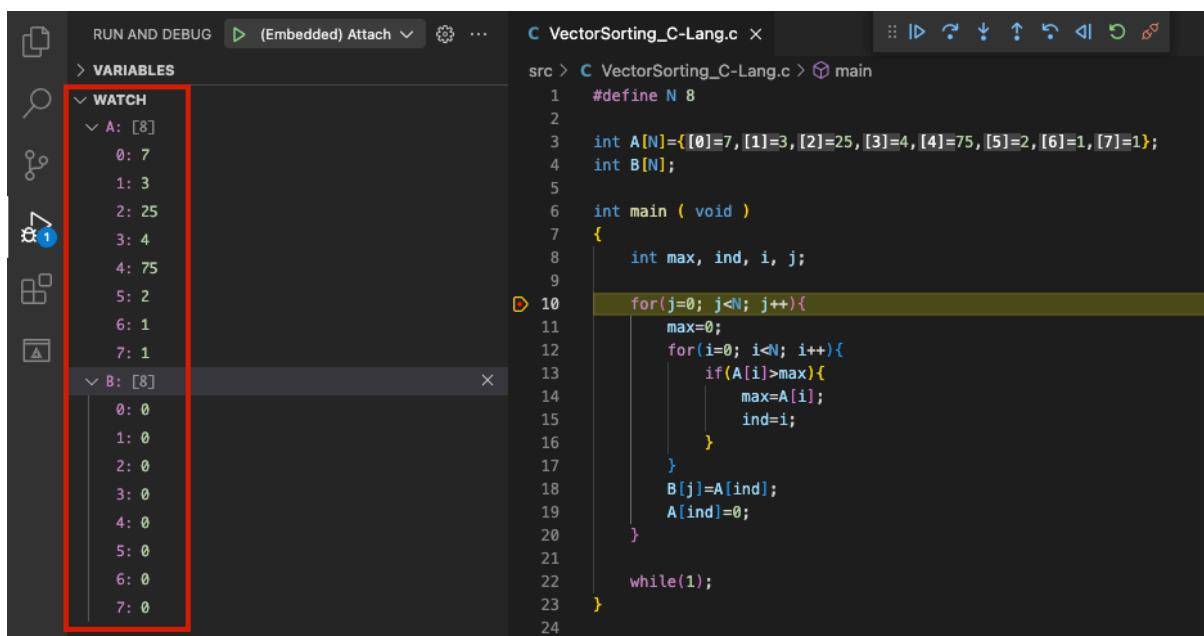

Figure 60. Execution stopped at the beginning of the program
5. Place a breakpoint at line 10 and start debugging. The execution will stop at the beginning of the `for` loop (Figure 60). In the WATCH section in the Debugger Side Bar, click the + icon and add the variable A. Do the same for variable B. Expand these to analyse the values of the A and B arrays (highlighted in red in Figure 60).